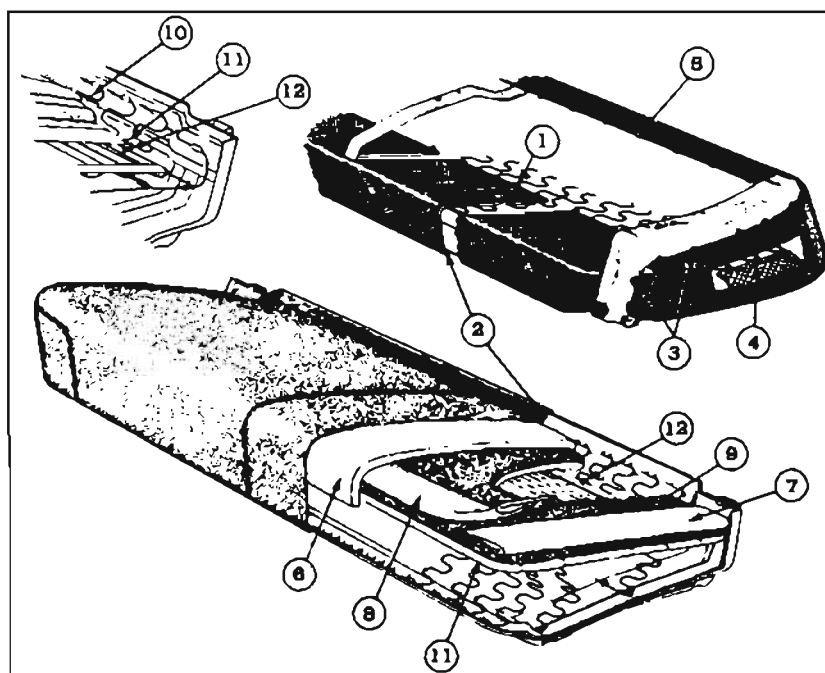

Figure 13-42—Front Seat Cushion Trim Installation
2. Referring to figure 13-42, remove hog rings holding bottom rear facing indicated at (1) to spring and frame. Remove loose wadding (2) from back of seat frame.
3. Remove hog rings securing end facing to slots in seat frame at (3). Also remove hog rings holding end listing to spring at (4).
4. Remove hog rings retaining front facing at (5) to slots at rear of front frame bar.
5. Turn cushion over, turn back trim cover and remove cotton pad (6), cotton batts (7) and (8) and latexed hair pad (9).
6. Remove hog rings securing top rear facing to spring at (10).
7. Remove hog rings holding cotton pad to springs at (11). If necessary, the wire insulator may be removed by disengaging hog rings as indicated at (12).
10. Attach cotton pad to spring at (11) with eight hog rings along each front and rear edge and three along each end. See figure 13-42.
11. Hog ring the top rear facing to spring with thirteen rings as shown at (10).
12. Place latexed hair pad over foundation pad at (9) and tuck snugly at rear.
13. Place a cotton batt over hair pad at each end (7) and along front (8). Batt is opened one-third.
14. Place cotton pad (6) over batts with tobacco cloth backing down against the latexed hair pad. Tuck snugly at rear.
15. Turn cushion upside down and hog ring the front facing at (5) to slots at rear of front frame bar with fourteen hog rings.
16. Secure each end facing to slots in cushion frame with six hog rings at (3). Also apply two hog rings at end of each facing.
17. Hog ring the end listing at (4) to the spring with three rings.
18. Apply wadding to back of cushion frame at (2) and proceed to secure the bottom rear facing to spring with eight hog rings and to frame with two hog rings at each end as shown at (1).